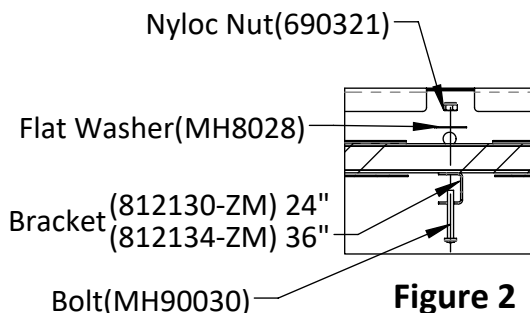
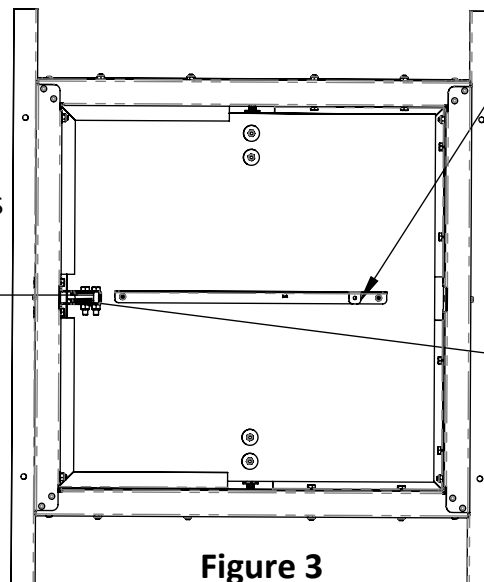

Figure 2
Figure 3
4. Install cable and spring bracket on the bottom of the damper door as shown in **Figure 3** using (2) #10-24 x 1-1/2" Bolts, (2) Flat Washers, (2) Nyloc nuts to hold the bracket to the damper door. Hardware shown in **Figure 2**.